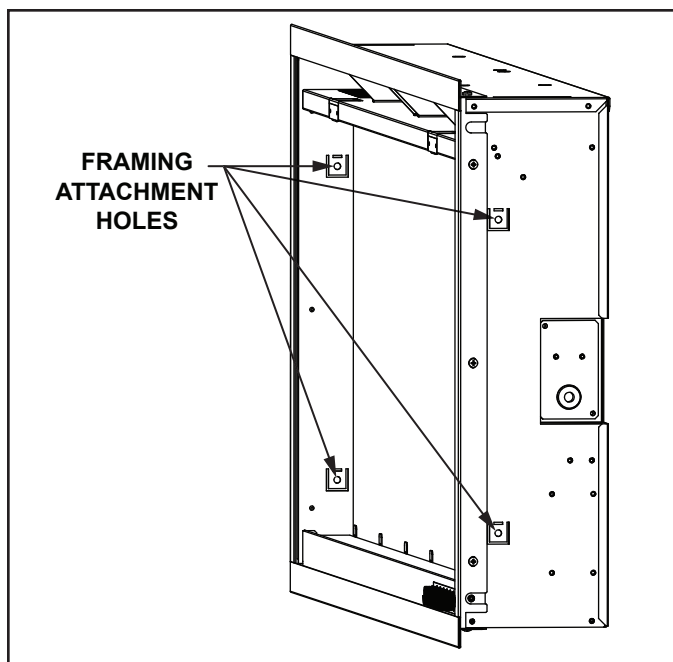

Figure 7.1 Framing Attachment Hole Locations
5. Attach the appliance to the framing with four (4) ST4X40 wood screws at the tabbed, framing attachment hole locations. See Figure 7.1.